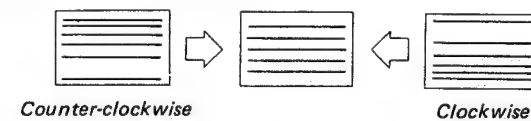

Fig. 21-2
3. Adjust V. LIN BALANCE by turning DA board RV20 as shown in Fig. 21-2.